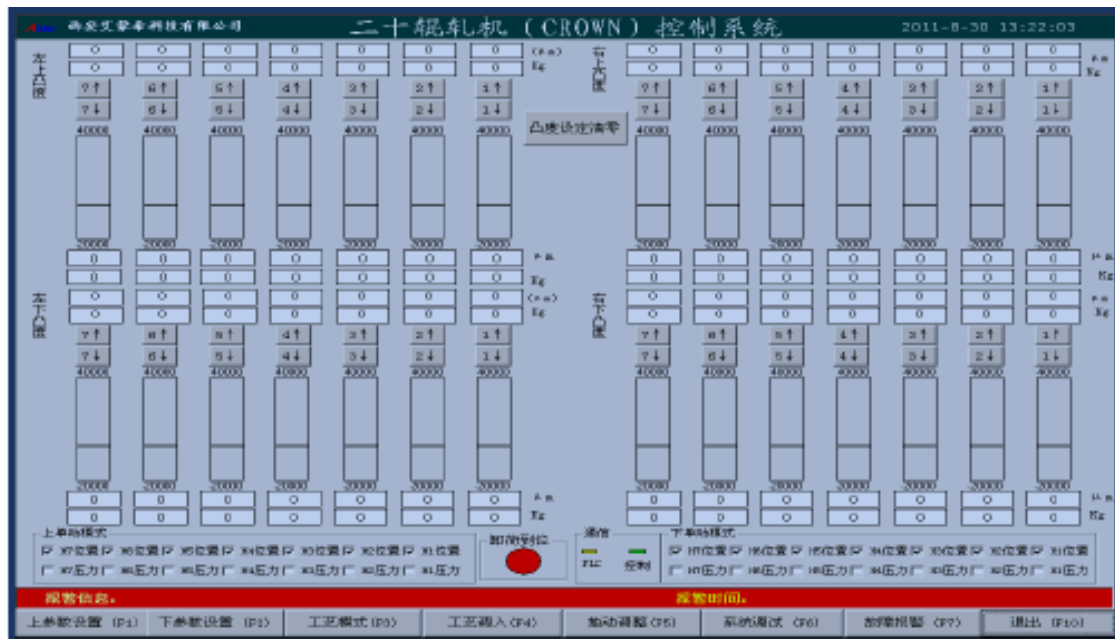

Figure1. Crown Control Interface
1. Start the computer->double click Crown Control software “amcCrown” -> enter the main interface(see figure 1)